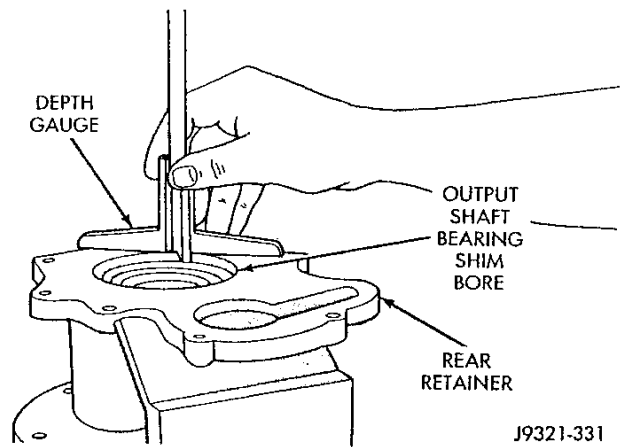

Fig. 67 Measuring Depth Of Output Shaft Bearing Shim Bore (In Rear Retainer)
(4) Measure depth of shim bore in rear retainer with depth gauge (Figs. 67 and 68). Record this measurement also as it will be needed for shim selection.